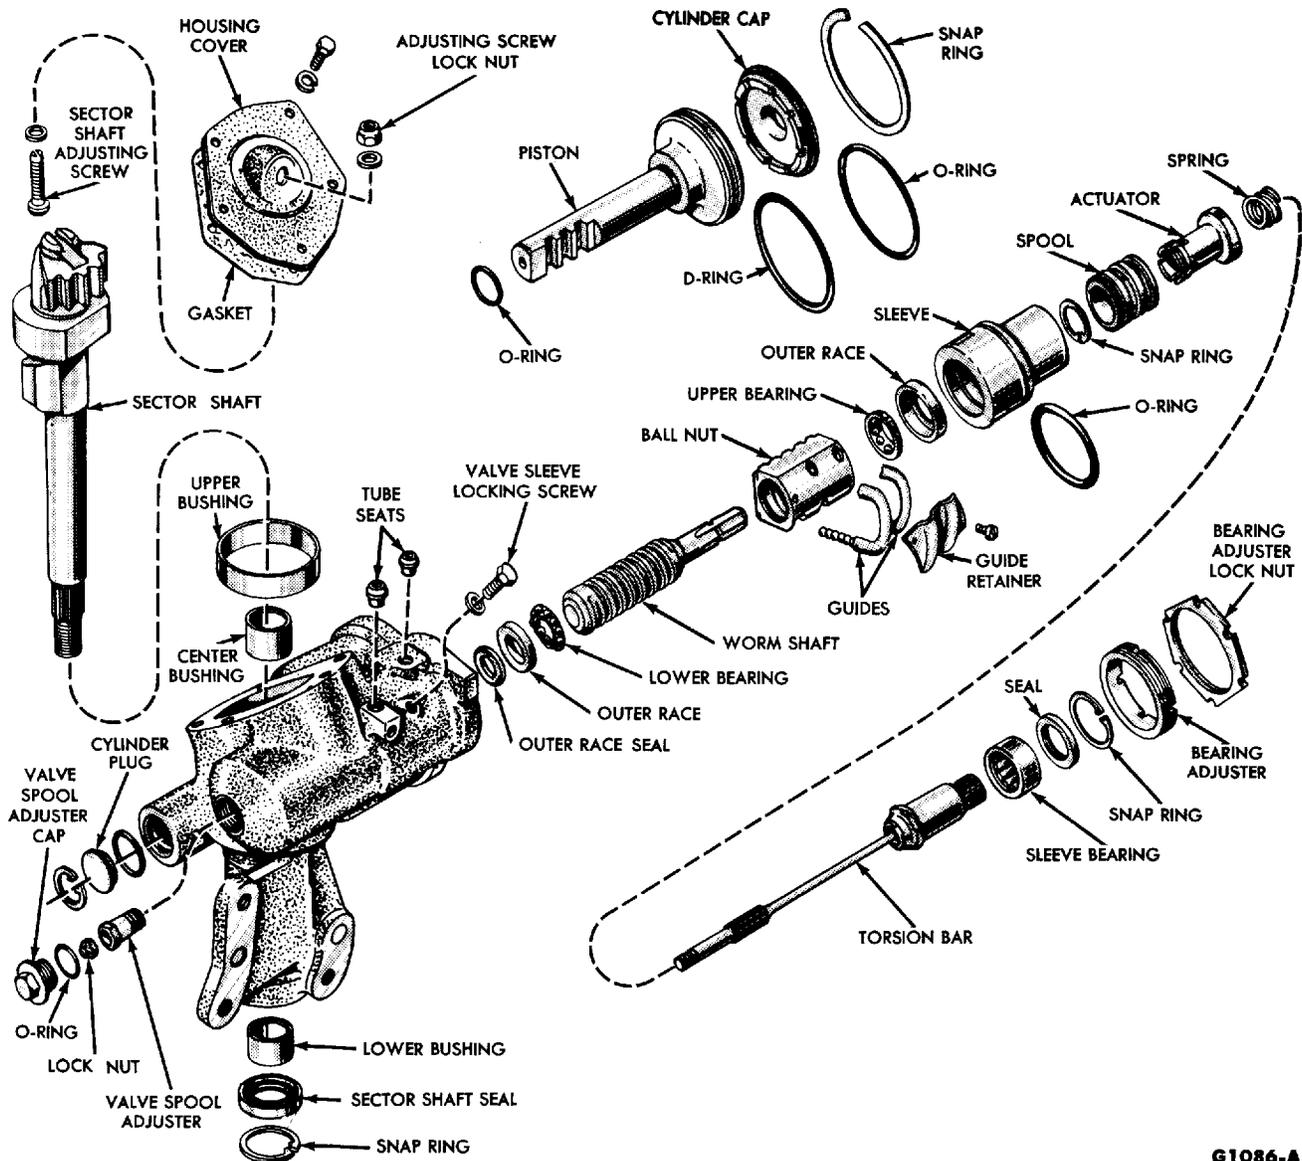

FIG. 12—Power Steering Gear Disassembled
13. Remove the sector shaft seal retaining ring and the seal (Fig. 12).
Refer to Fig. 12.